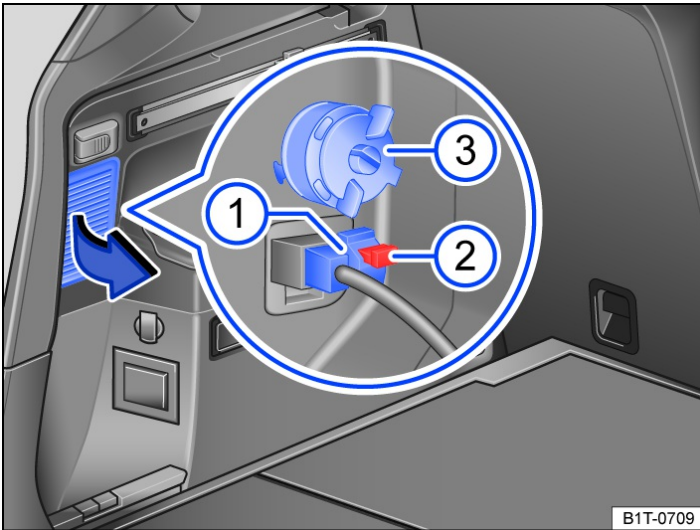

Fig. 1 On the side of the luggage compartment: removing the tail light cluster.
3. Open the section of side trim in the luggage compartment near the tail light cluster in the direction of the arrow → Fig. 1.